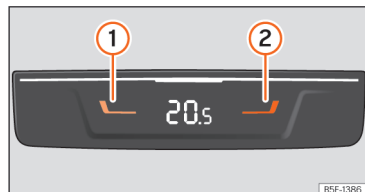

Fig. 113 In the centre console, rear section: controls for the rear seats.
- Press buttons **1** and **2** \ggg Fig. 113 to adjust the temperature of the rear zone.